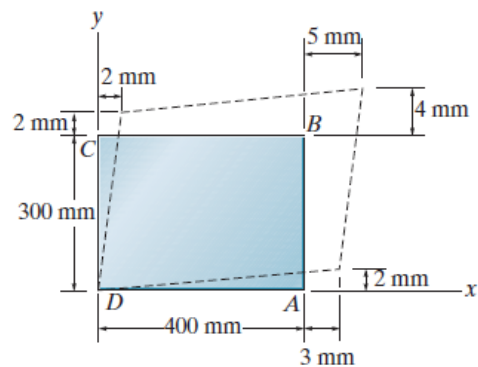

Fig. 4
- The piece of plastic shown in Fig. 4 is originally rectangular. Determine the shear strain at corners A, B, C and D if the plastic distorts as shown by the dashed lines. Also determine the average normal strain that occurs along the diagonals AC and DB. [ $(\gamma_B)_{xy} = 11.6(10^{-3})$  rad;  $(\gamma_A)_{xy} = -11.6(10^{-3})$  rad;  $(\gamma_C)_{xy} = -11.6(10^{-3})$  rad;  $(\gamma_D)_{xy} = 11.6(10^{-3})$  rad;  $\epsilon_{AC} = 1.60(10^{-3})$  mm/mm;  $\epsilon_{DB} = 12.8(10^{-3})$  mm/mm]